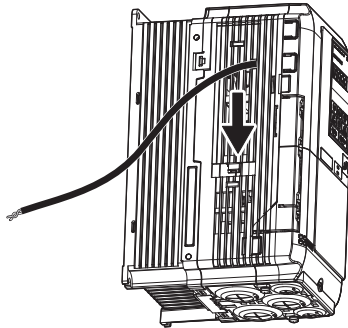

Figure 64 Reattaching the Connector Cover (2)
4. Slide the connector cover back into place as shown in Figure 64.